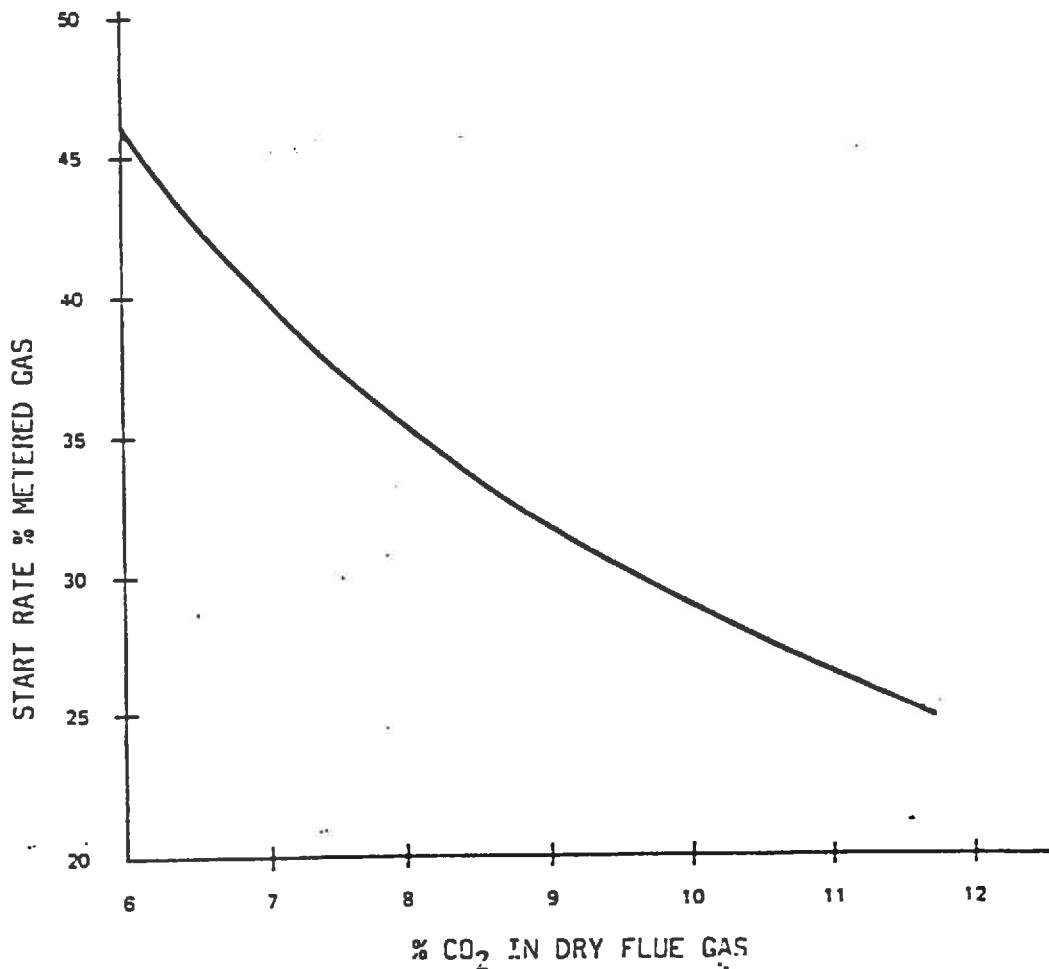

Fig. 13. Maximum Start Rate Graph.
- 17.1 Maximum start gas rate is determined as "flow measured to a maximum of 25% Stoichiometric gas rate for the proved air flow at the time of ignition" See Fig. 13.
Applying the Low fire CO₂ content to Fig. 13 will establish maximum permissible start rate, e.g. at 10% CO₂ a metered start gas rate of 29% of the Low Flame gas rate is permissible.